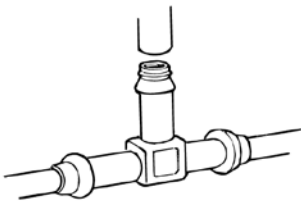
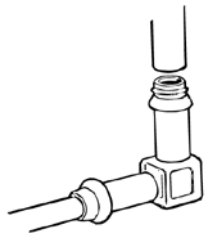

Fig 10 Threaded T-junction.
Fig 11 Threaded elbow junction
- Lay the tubing in the trench and cut it at the position of each sprinkler and install a threaded 'T' junction (see Fig 10). For the last sprinkler on the line install a threaded elbow connector (see Fig 11).